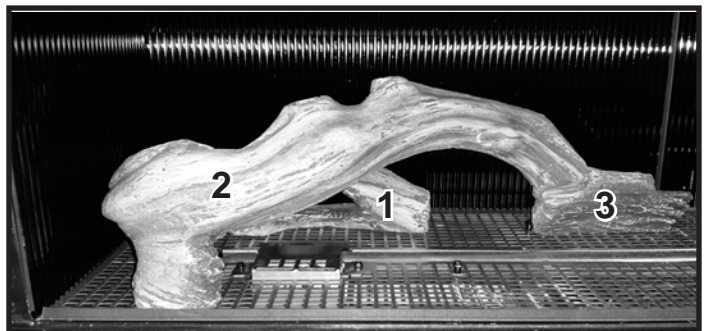

Figure 6 Install Log #2
**Log #2:** Place the right side of Log #2 onto the support feature on Log #3. Pivot the left base of Log #2 forward until it contacts the media tray ledge. See Figure 6.